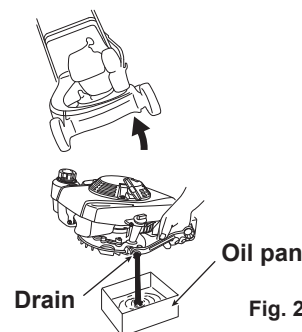

Fig. 27
- Drain the engine oil from the drain port. (See Fig. 27)